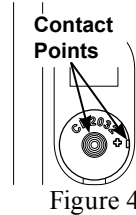

Figure 4
4. Referring to figures 4 and 5, insert the battery into the socket. Make sure the battery is touching both contact points and is seated in the socket.